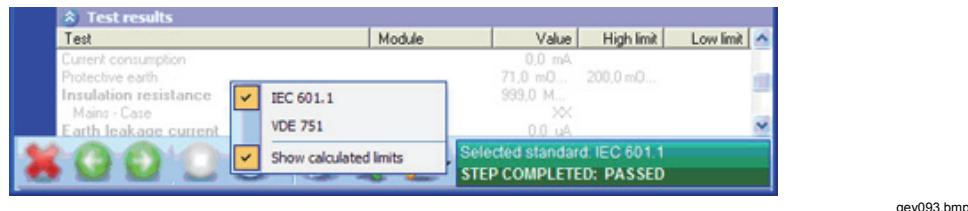

Figure 3-59. Standards Menu for Test Guide
6. While the test is running, or when it has completed, right-click the list of test results to bring up the standards menu. To view limits for the VDE 751 standard, select **VDE 751** in the menu. Limit values are updated in the test results. When the test completes, the process bar disappears and the color of the status bar is updated to reflect the current status of the test as shown in Figure 3-59.